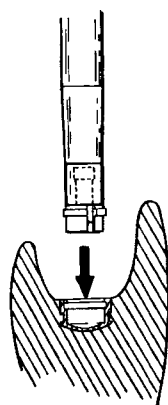

Fig. 6
5. Use the Seating Tool to firmly push the new male into the metal denture cap. The replacement male must seat securely into place beneath the rim of the cap. (Fig. 6)